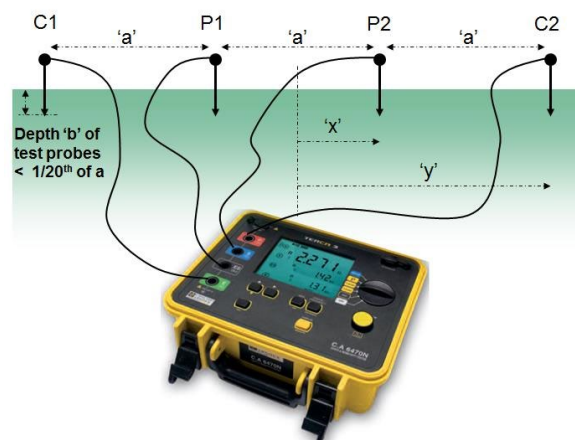

Figure: 1
Figure 1. The earth tester pictured injects an AC current into the earth under test from terminal C1 to C2 utilising the outer driven metallic stakes. The inner stakes shown measure the potential difference, and are connected to terminals P1 and P2. The meter will display a resistance measurement. This resistance, R, is used in the formula:
Where, ρ (Rho) is the average soil resistivity to depth a , π being the constant 3.1416. ' a ' is also the distance of spacing between the electrodes used in the measurement, which must be equal between each electrode as shown in Figure 1.
- Starting at a spacing of 0.5m, place the 4 electrodes in a straight line taking care not to exceed the $a/20$ depth. This would place your current electrodes at 0.75m from the centre point and your potential electrodes at 0.25m from the centre. Connect the electrodes to the meter as shown in Figure 1 and measure the resistance, record on the test report. See below for common troubleshooting.